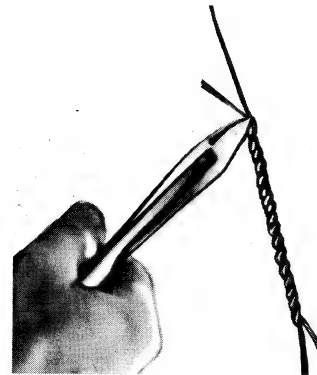

FIGURE 14
4. Remove the twist from the twist bracket and cut the tail on the leading end of the twist as close as possible as shown in Figure 14. This will enable the twist to pass freely through the wire guides and rollers.